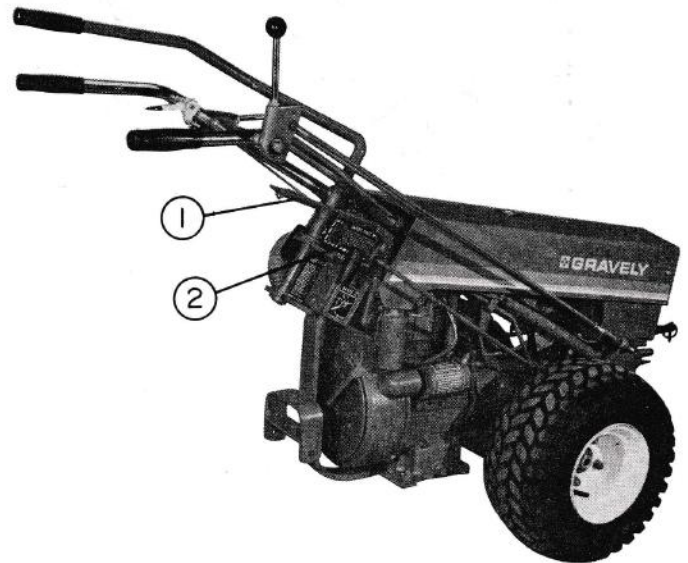

Fig. 19
2. Turn the adjusting nuts on the brake rods until the cross weldment is parallel to the instrument panel. The brake handlebar should have a slight amount of free movement to assure that the brakes are not too tight. See fig. 19.